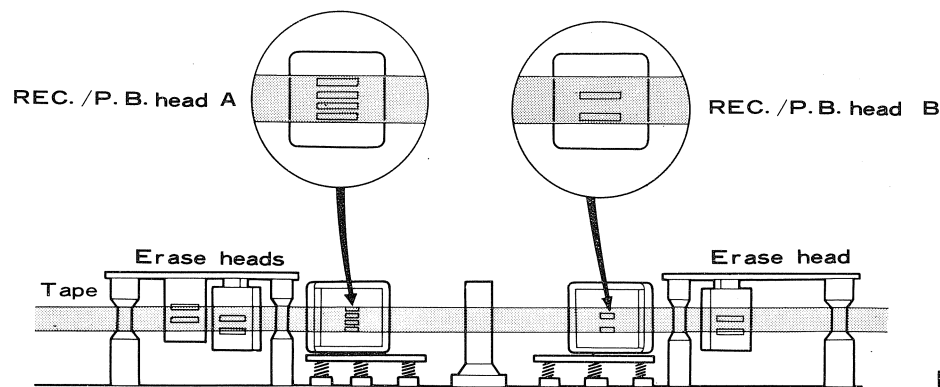

Fig. 23
2. Distances between the tape edges and the outer edges of track 1, respectively, should be exactly equal Fig. 23.